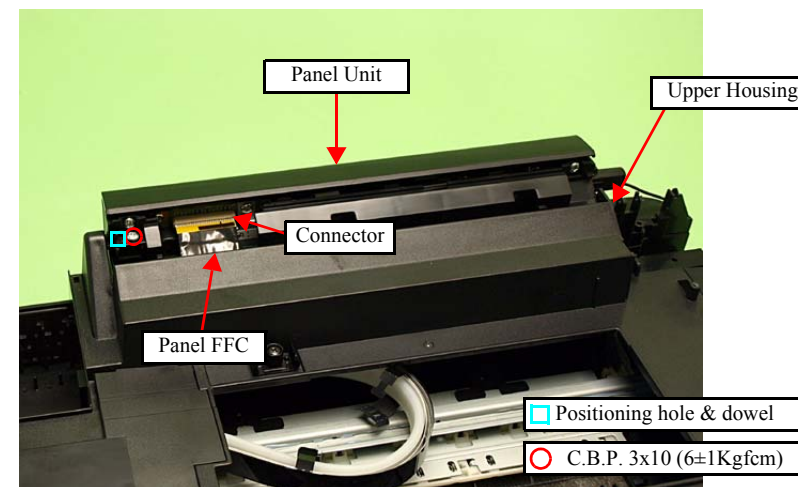

Figure 4-38. Removing the Panel Unit (2)
8. Disconnect the Panel FFC from the connector of the Panel Unit. (See Fig. 4-38.)
- Align and insert the dowel of the Right Hinge to the positioning hole of the Panel Unit. (See Fig. 4-38.)